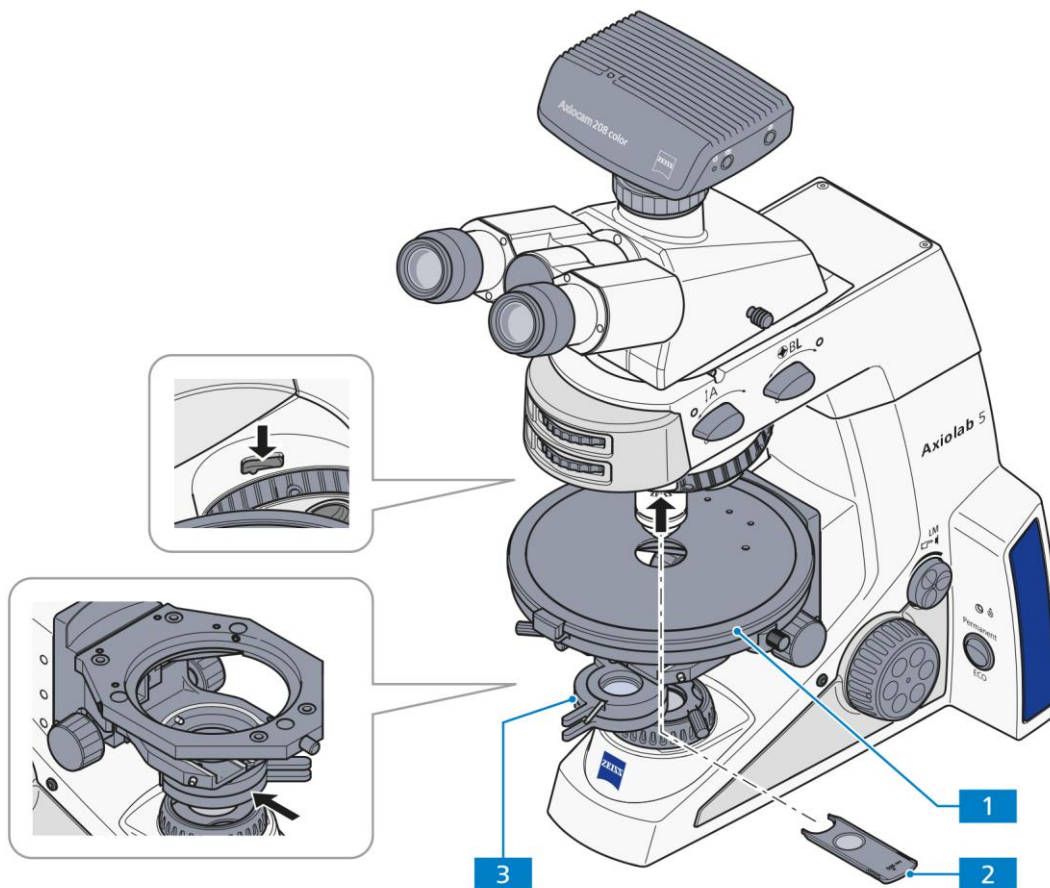

Fig. 4-13 Components for transmitted light polarization on the conoscopy stand
(3) Configuring the microscope
- Configure the microscope as for transmitted light brightfield microscopy using the KÖHLER method (see section 4.2.1 (3)).
- Center the Pol rotary stage (Fig. 4-13/1) (see section 3.1.7.5) and objectives (see section 3.1.7.6).
- Swing the polarizer (Fig. 4-13/3) into the beam path and, if it is rotatable, position it at 0°.
- Put the analyzer slider (Fig. 4-13/2) into the beam path and adjust it using the setting wheel until the field of view is dark.
(2) Equipment configuration for Axiolab for conoscopy
- Pol rotary stage (Fig. 4-13/1)
(3) Configure the microscope
- Configure the microscope as for transmitted light brightfield microscopy (see section 4.2.1 (3)), taking care to ensure the correct inter-pupillary distance in the binocular tube (see section 4.1.1).